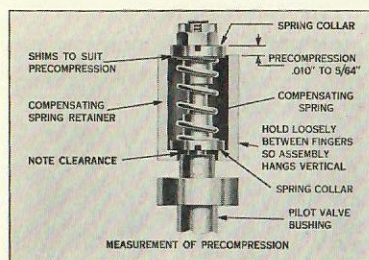

FIG. 16-1
5. Remove cotter and back off adjusting castle nut to release spring load, Fig. 16-1.